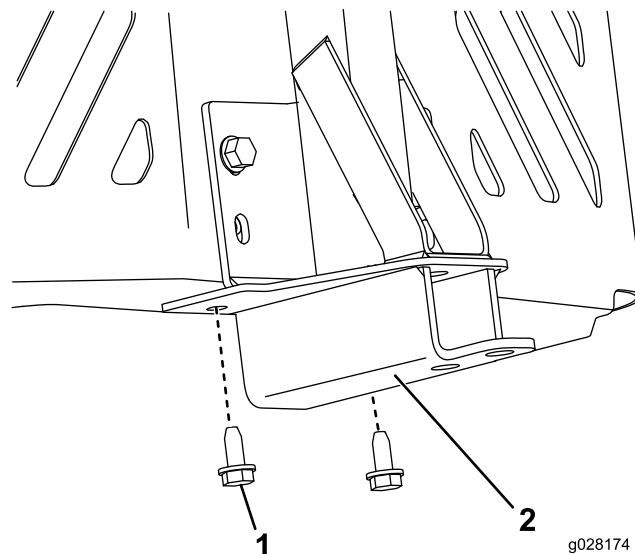

Figure 16
- 5. Position the pivot frame upward, and secure the pivot frame to the bottom of the machine frame using 2 self-tapping screws (5/16 x 3/4 inch) as shown in Figure 16.
- 3. Remove the existing 2 self-tapping screws from the bottom of the machine frame (Figure 16).